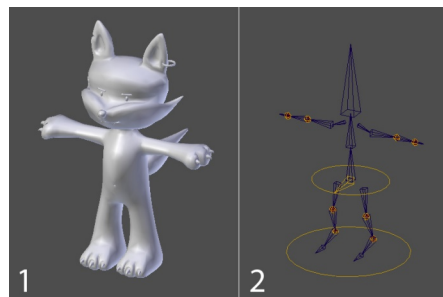

Figure 1: The 3D model of a character (1) and the intuitive body rig controlling it (2)
The rig works by freely selecting, dragging and positioning the controls of the hip, waist, hands, elbows, feet and knees. Rotation is only used in the joints of the hip, waist, hands and feet to achieve specific poses. Figure 1 shows the 3D model of a character (1) previously developed in our research group (the Porto Interactive Center) which is now used for testing the body rig (2) we developed for testing purposes.